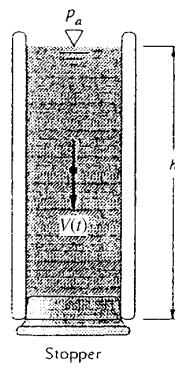

Fig. P3.90
**3.90** As shown in Fig. P3.90, a liquid column of height  $h$  is confined in a vertical tube of cross-sectional area  $A$  by a stopper. At  $t = 0$  the stopper is suddenly removed, exposing the bottom of the liquid to atmospheric pressure. Using a control-volume analysis of mass and vertical momentum, derive the differential equation for the downward motion  $V(t)$  of the liquid. Assume one-dimensional, incompressible, frictionless flow.